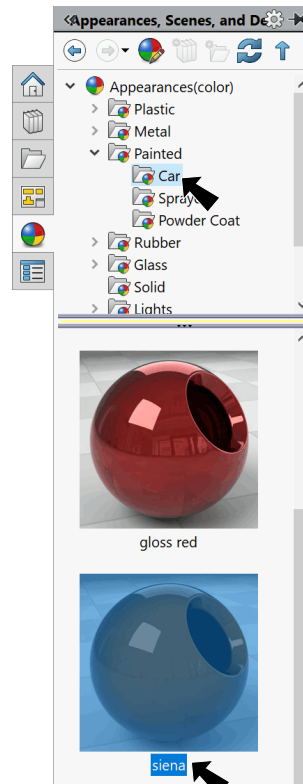

Fig. 17
Step 2. In the Appearances Task pane, expand **Painted**, click **Car** and in the lower pane select **sienna**, **Fig. 17**.